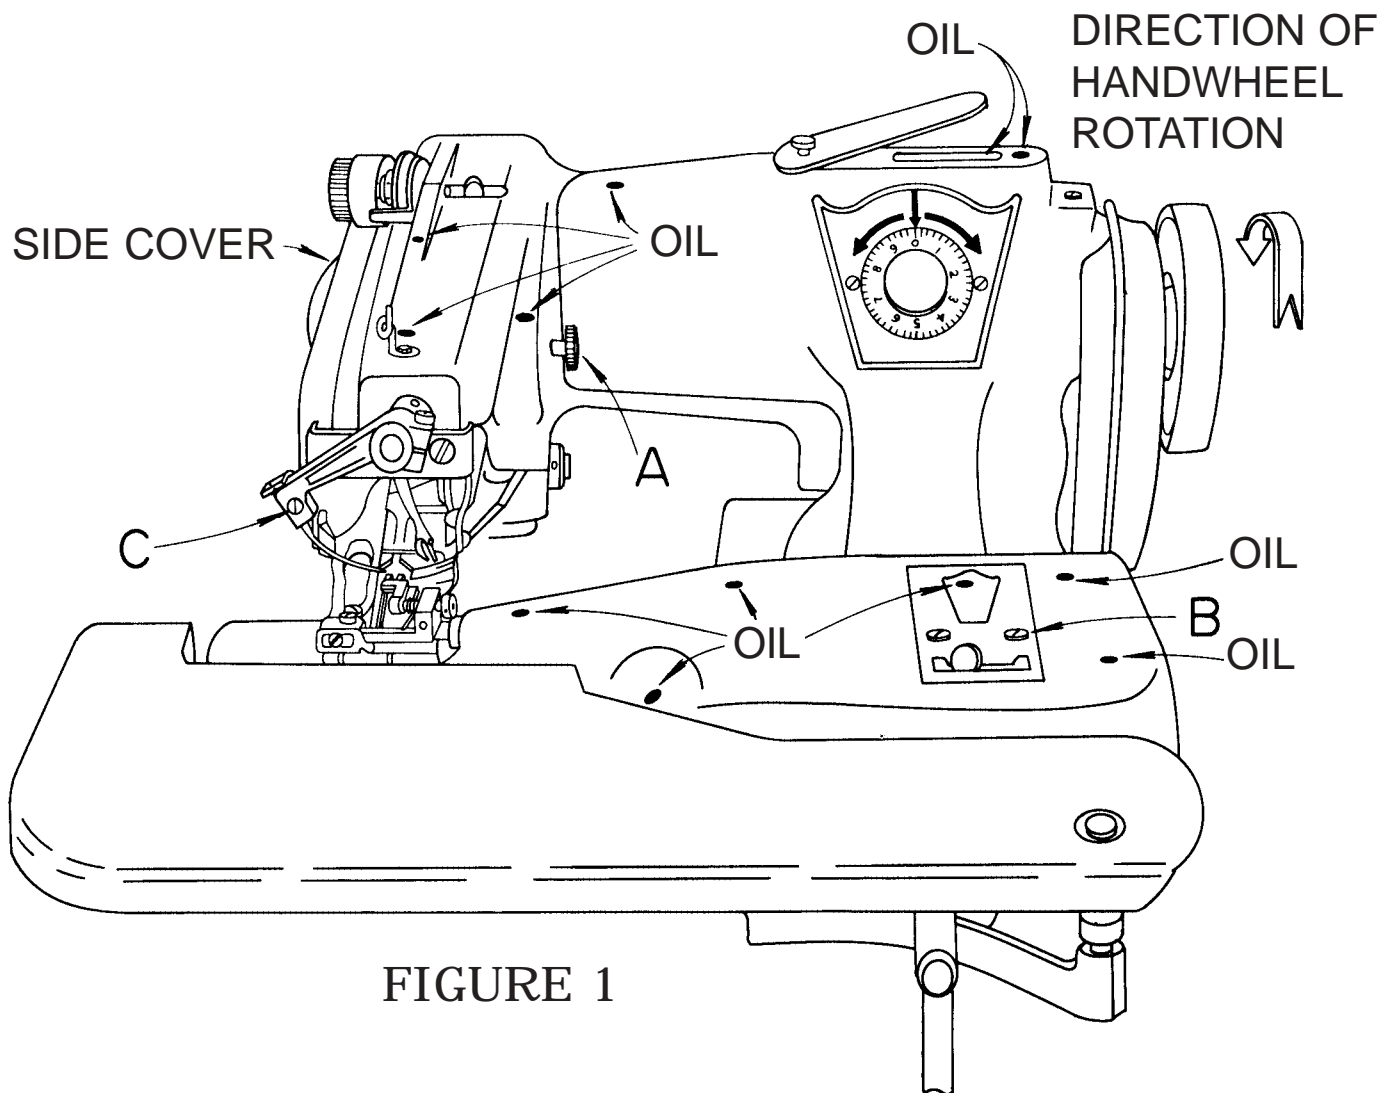
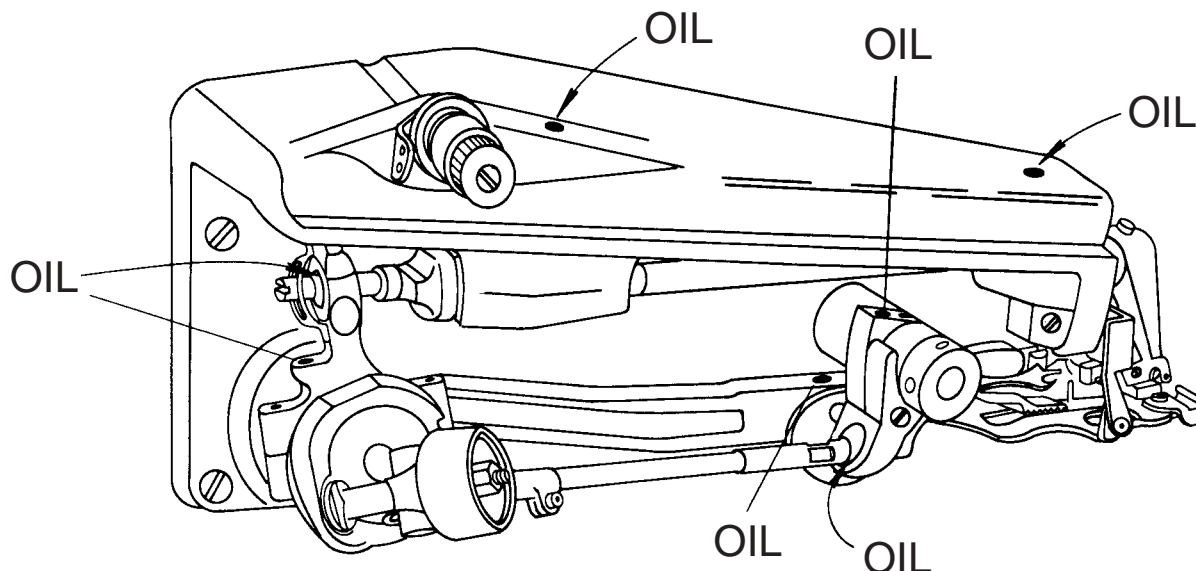

FIGURE 1
FIGURE 2
2. The machine should be mounted so as to insure that the direction of rotation of the handwheel is away from the operator. In other words, the handwheel rotates in a clock-wise direction when looking at the face of the wheel pulley, as shown by the arrow in **Figure 1**.
2. Place a few drops of oil at all the points shown on the oiling chart in **Figure 1**. Remove the side cover shown on **Figure 1** by loosening the cover attaching bolt "A". Then place a few drops of oil at all the points shown on-the oiling chart in **Figure 2**.
3. In production use, the machine should be oiled on a daily basis in accordance with the instructions in item 2 above.
- b. The lifter rod itself may be moved from left to right as follows: Loosen the screw attaching the small window plate on top of the feed frame (*see Figure 1, item "B"*) and swing this plate out of the way. By inserting a screw driver into the window, the two screws which lock the lifter rod to the lifter rod bracket may be loosened. Move the rod to the desired location and tighten the two lifter rod bracket screws. Replace the window plate in its proper location and tighten the window plate screws.
2. Remove the side cover by loosening the attaching screw (*item "A" in Figure 1*) and observe the machine from the rear.
b. Loosen the needle clamp screw (**item "C" in Figure 1**), slide the clamp rearward sufficiently to release the old needle, and remove and discard it. Insert the new needle and push it up into the groove of the needle lever as far as it will go. Make sure that the flat on the shank of the needle faces rearward and the needle is properly seated in the groove. Tighten the needle clamp screw and turn the handwheel slowly making sure that the needle passes lightly over the needle guide on the presser foot and clears the looper. Readjust the needle penetration as described in a previous section, prior to resuming operation.
b. Loosen the needle clamp screw (**item "C" in Figure 1**), slide the clamp rearward sufficiently to release the old needle, and remove and discard it. Insert the new needle and push it up into the groove of the needle lever as far as it will go. Make sure that the flat on the shank of the needle faces rearward and the needle is properly seated in the groove. Tighten the needle clamp screw and turn the handwheel slowly making sure that the needle passes lightly over the needle guide on the presser foot and clears the looper. Re-adjust the needle penetration as described in a previous section, prior to resuming operation.